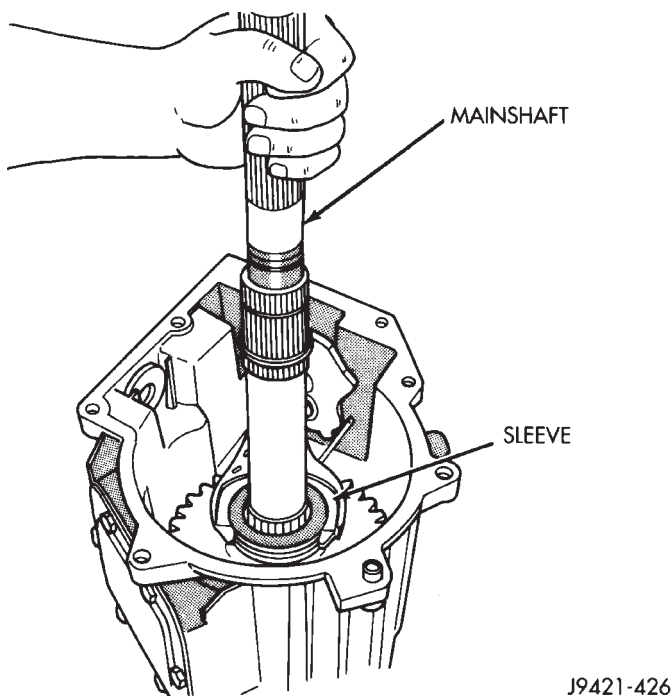

Fig. 62 Mainshaft Installation
(20) Install mainshaft (Fig. 62). Guide shaft through sleeve and into input gear bearing.